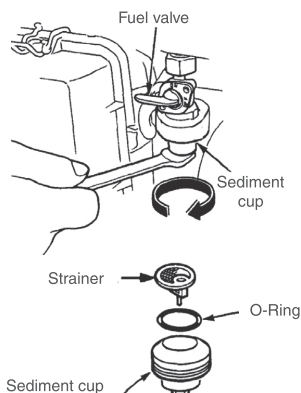

Fig. 18
7.4.1 Set the fuel switch to OFF position, Dismantle the fuel filter cup and gauge (Fig. 18)